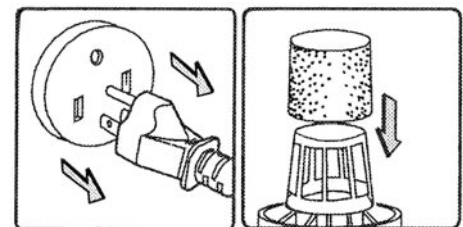

FIGURE 11
- 2) Remove the cover/motor assembly by undoing the 2 side mounted cover latches and install a clean and dry foam filter. If wet vacuuming under normal conditions (small amounts of liquid pick-up), the foam and re-usable filters can be installed, but when vacuuming large amounts of liquid, only install the foam filter, see Fig.11. The dust bag can not be used for wet vacuuming. Make sure the inside of the tank is clean.